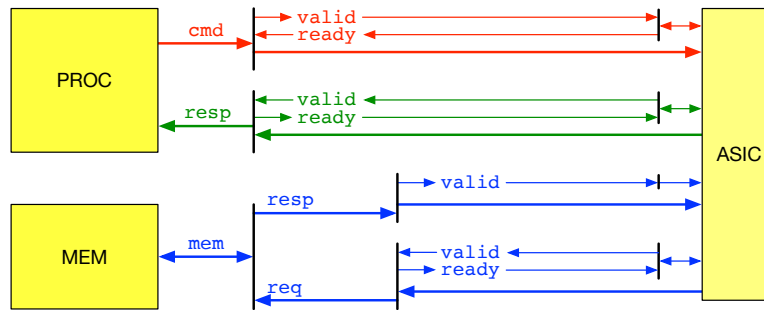

Figure 1: Interfaces between ASIC and PROC & MEM. A high-level overview.
A high-level picture of how these interfaces link your ASIC to PROC and MEM is shown in Fig. 1. More details about these connections and the way they are operated are given below.
- 5) The data that you requested will come back on the `mem.resp` interface. Notice from Fig. 1 that this interface only has a `val` connection for flow control (no `rdy` signal is used). MEM does not care whether you grab data from it or not (i.e., it has no need for a `rdy` signal from you). If the ASIC is waiting for some response from MEM you should probably grab what's valid on the `mem.resp` interface.